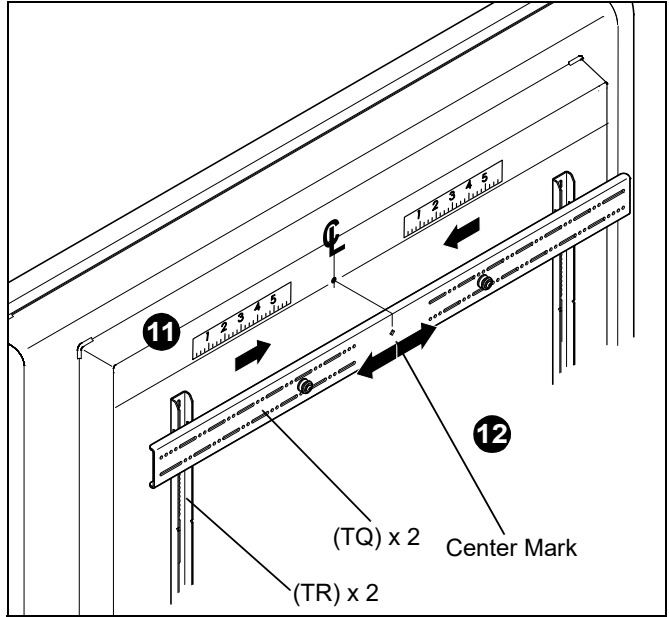
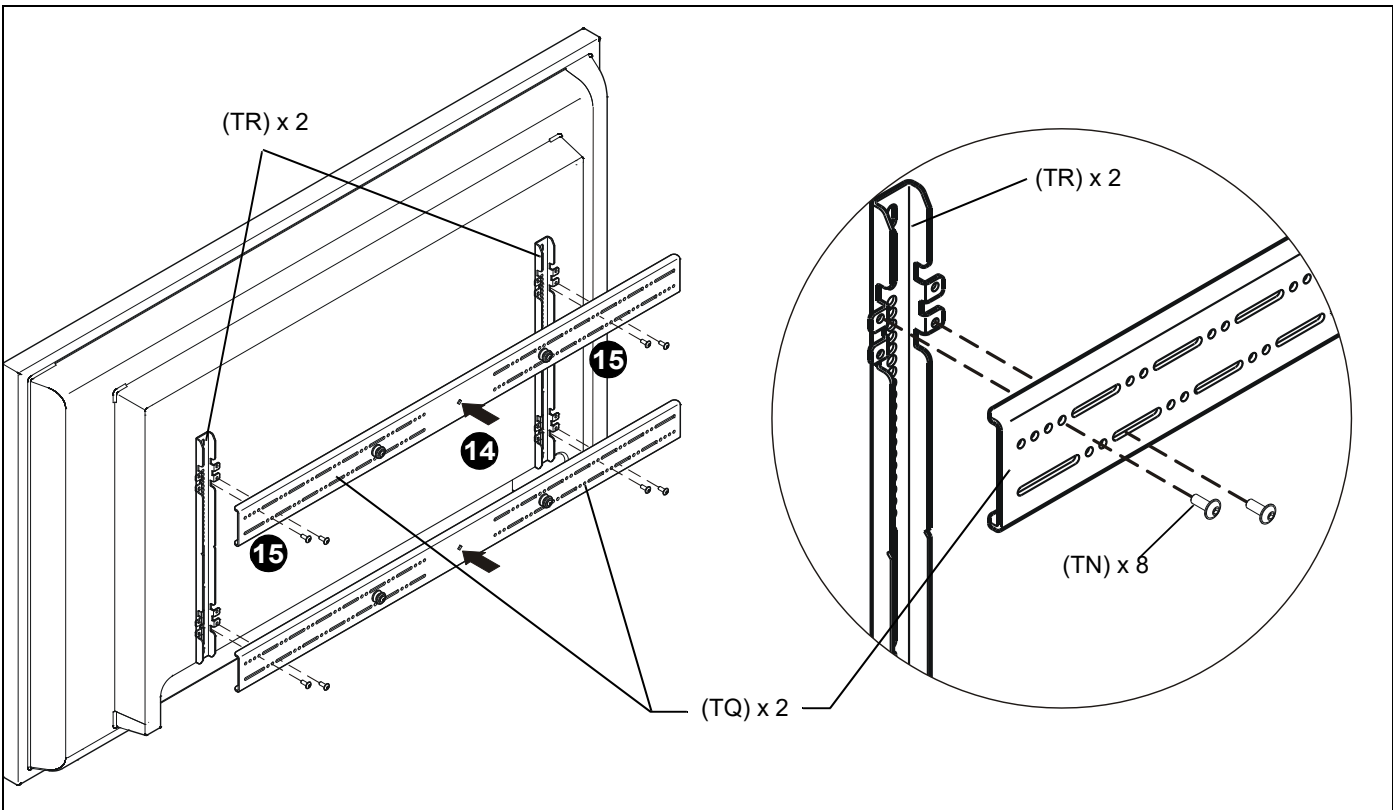

Figure 18
Figure 19
11. Determine and mark the horizontal center position between the Left and Right *TOP* mounting holes in display. (See Figure 18)
12. Determine and mark the horizontal center position between the Left and Right *BOTTOM* mounting holes in display. (See Figure 18)
13. Orient upper horizontal mounting bracket (TQ) so that flanges are facing towards display and resting in recessed area of left and right vertical mounting brackets (TR). (See Figure 18)
14. Adjust Upper horizontal mounting bracket (TQ) position until center diamond in horizontal mounting bracket (TQ) aligns with mark made in Step 11, and mounting holes and slots in horizontal mounting bracket (TQ) are aligned with threaded holes in mounting tabs of left and right vertical mounting brackets (TR). (See Figure 18) and (See Figure 19)
15. Use 1/8" hex key (TP) to secure upper horizontal mounting bracket (TQ) to left and right vertical mounting brackets (TR) using four button head flanged screws (TN). (See Figure 19)
16. Repeat Steps 12 through 15 for lower horizontal mounting bracket (TQ).
IMPORTANT ! : The orientation of, and mounting holes used, when installing the lower horizontal mounting bracket must be the same as the upper horizontal mounting bracket. Vertically align upper and lower brackets by aligning holes or end of slots. (See Figure 19)
IMPORTANT ! : Whenever possible install mounting screws diagonally as shown in detail in Figure 18.